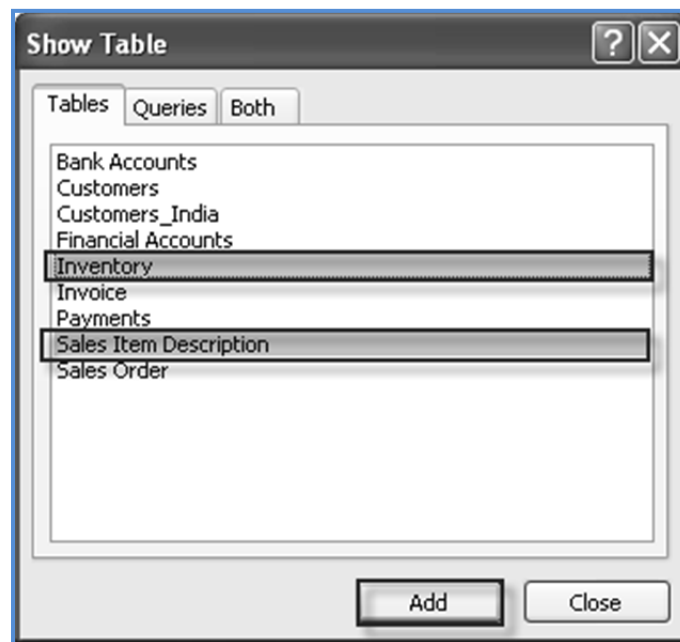

Fig. 1.2.29: Show Table window
2. Select the *Inventory* and *Sales Item Description* tables from **Show Table** dialog box and click **Add**, as shown in Fig. 1.2.29.